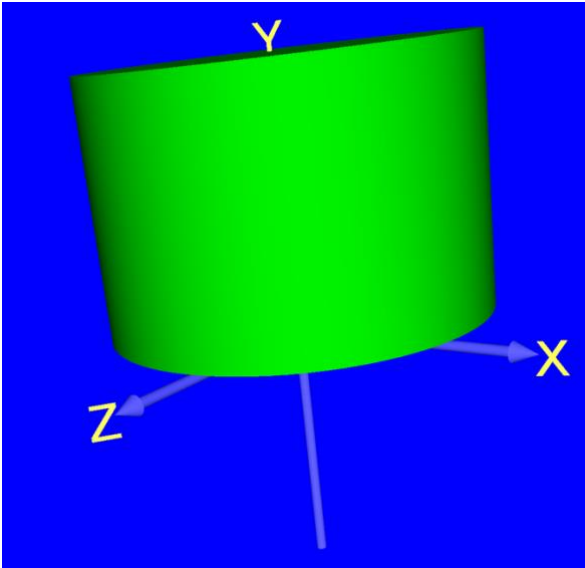

Fig 10. Solid cylinder with $u, v, w \in [0 \ 1]$ and resolution of $[75 \ 75]$
8. solid cylinder.wrl - Shows a solid cylinder as per Fig 10's specifications